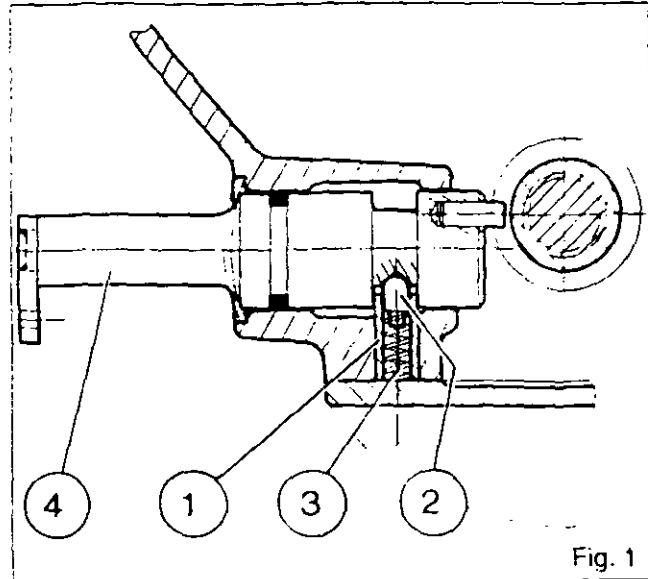
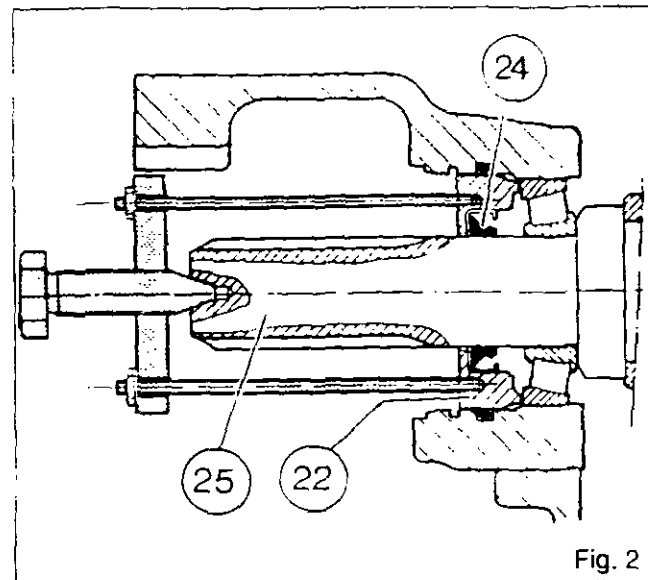
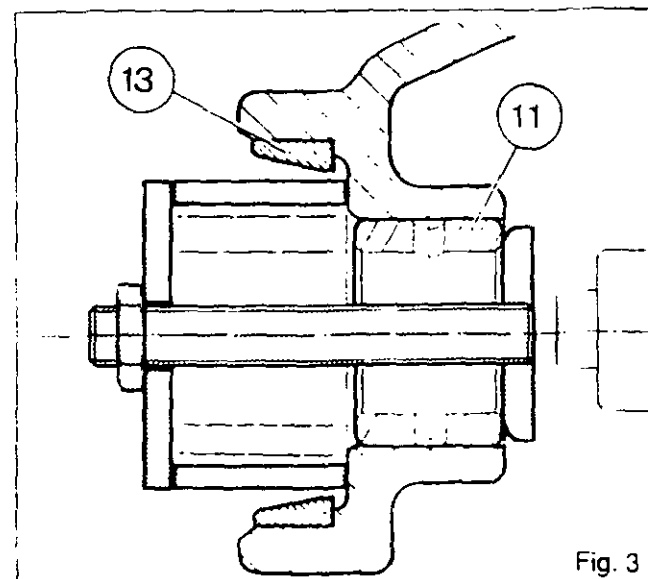

Fig. 1
Fig. 2
Fig. 3
3. Remove the bolts (10) and the cover (17).
**Note:** On tractors with a ground speed PTO (G.S. PTO), recover the spring (3), the plunger (2) and the retaining tube (1) (Fig. 1).
**On tractors equipped with a protector flange and rice field seal, remove the screw (27), the flange (28) and the seal (26).**
4. Remove the circlip (23).
5. Protect the splined section of the shaft (25). Extract the cap (22) with its seal (24) using the locally made tool (see section E). Remove the seal (24) (Fig. 2).
6. Remove the O-ring (21).
7. Remove the shims (20) and the cup (18).
8. Remove the shaft assembly (25) and bearing cone (19), whilst keeping the clutch assembly (16) and transfer gear (15) together.
9. Remove the clutch assembly (16) with the transfer gear (15) and bearing cone (14).
10. Using the locally made tool (see section E), remove the bush (11) (Fig. 3). This tool is essential for tractors with G.S. PTO. If necessary, also remove the cup (13) with a suitable extractor.
**If removing the gear (7), it is necessary to remove the right-hand hydraulic cover.**